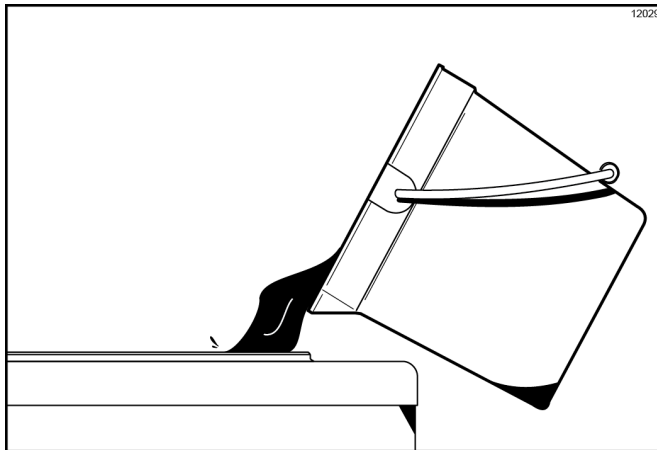

Figure-99
- Pour 2 gal. (7.6 L) of cool, clean water into the shake mix hopper. With the white hopper brush, scrub the mix hopper, mix-level sensing probes, and the outside of the agitator driveshaft housing. Using the double-ended brush, brush-clean the mix inlet hole. (See Figure-99)